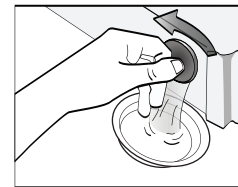

Fig 11
4.Reconnect the inlet pipe to tap. Remove the remaining water in drain pump(Fig11).